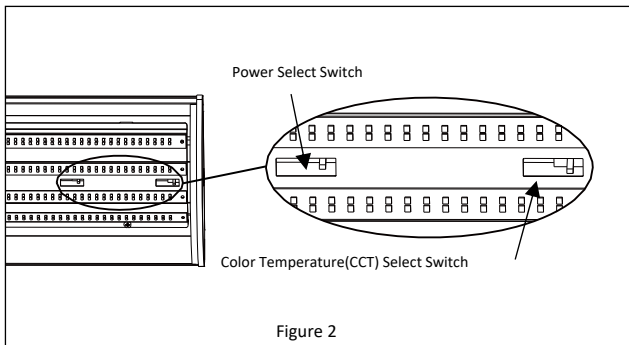

Figure 2
6. Select the desired CCT and power for the environment in which the fixture is installed. **See Figure 2.**